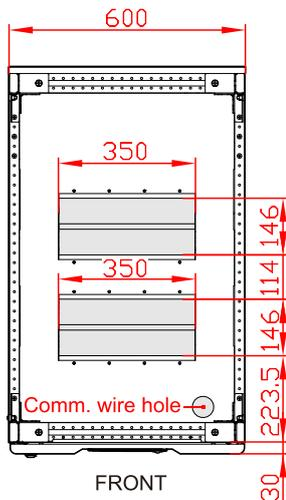
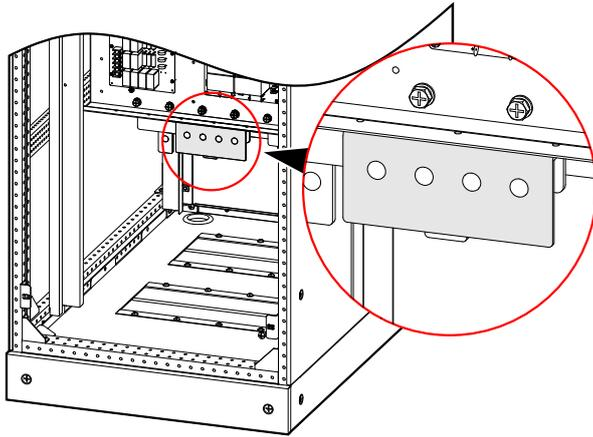
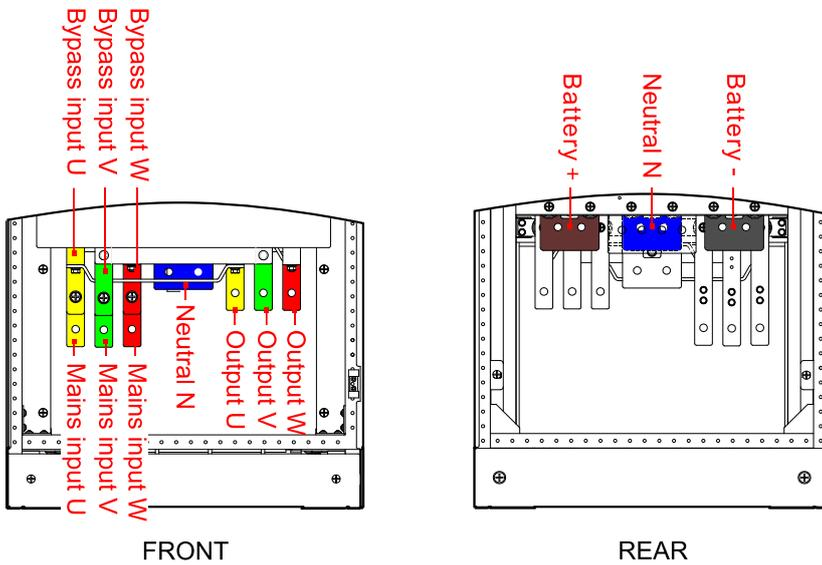

Figure3-34 Wire inlet and outlet hole of down wiring of 160K, 200K
Figure3-35 PE position of 160K, 200K
Figure3-36 Wiring terminals bars diagram of 160K, 200K
- Step 2 Lead the input cables, output cables, battery cables and PE go through the top wiring hole(the position of wire inlet and outlet holes as shown in Figure3-34), and connect the wiring terminal respectively(the wiring terminal as shown in Figure3-35, Figure3-36), then fasten the bolts.